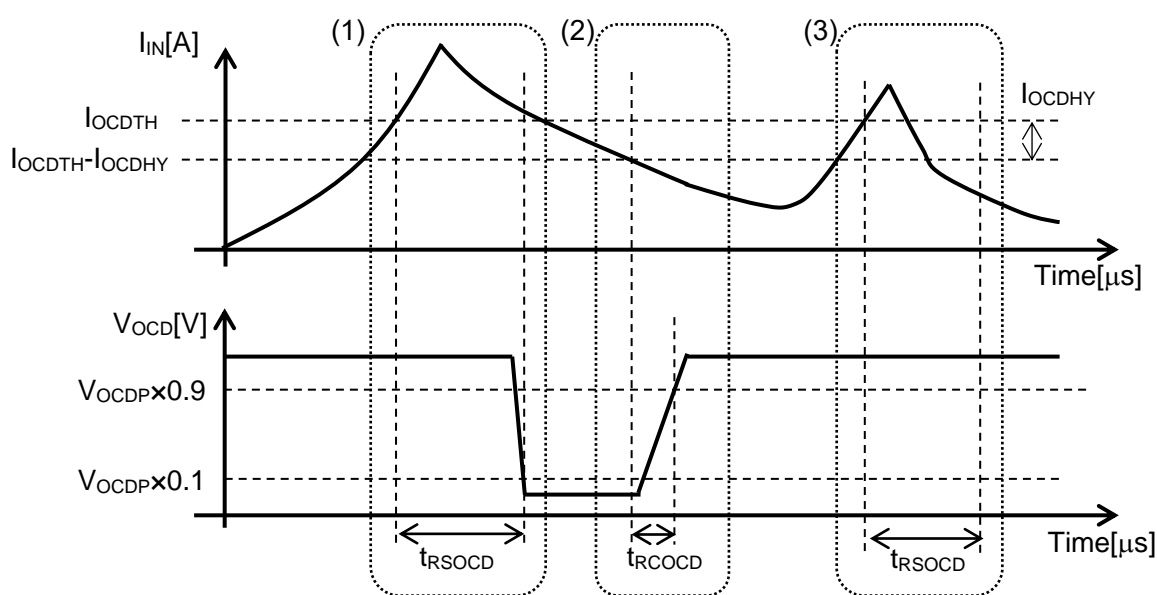

Figure 6. Overcurrent Detection Function of CZ-3AG3
10.4. Overcurrent Detection Function is operated as below. (See figure 6.)